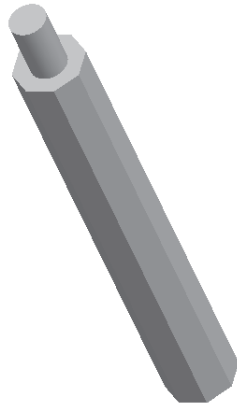

Figure 7-100 Model after creating the cylindrical feature
- c. The second feature is a cylinder on the top face of the base feature, refer to Figure 7-100.
3. After exiting the sketcher environment, extrude the circle to a depth of 210. The model, after creating the second feature, is shown in Figure 7-100.